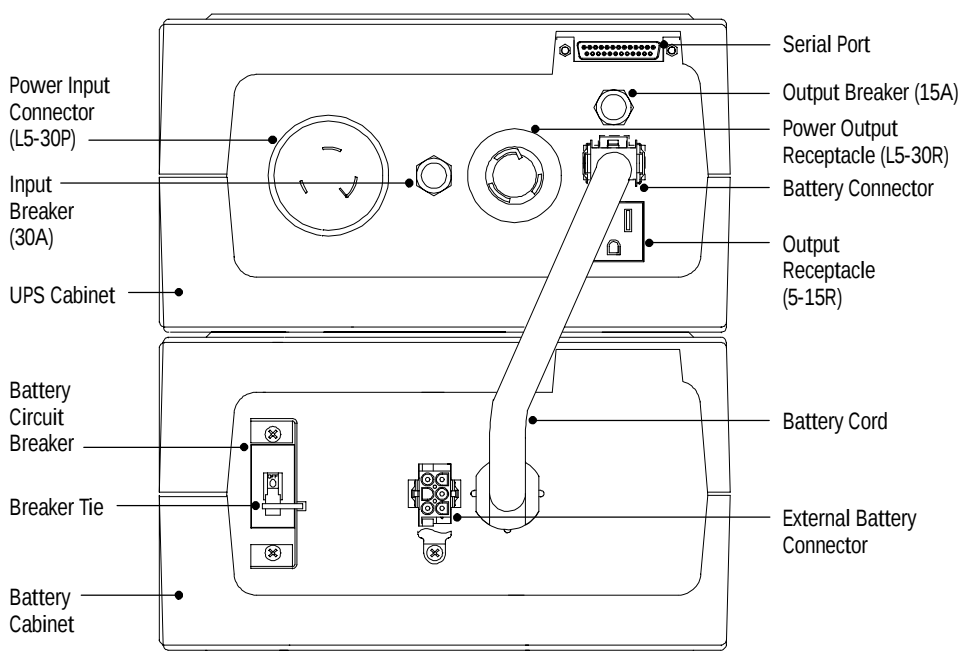

Figure 4. UPS Rear Panel
Whenever the units are not energized, verify the circuit breaker on all battery cabinets is returned to the OFF (O) position (see Figure 4 on page 31).
2. Verify the circuit breaker on all battery cabinets is in the OFF (O) position (see Figure 4).